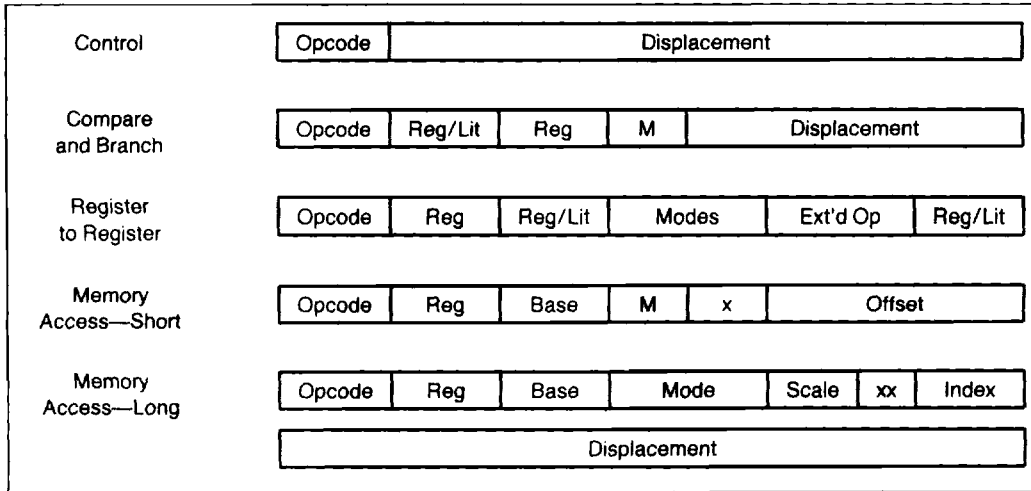

Figure 3. Instruction Formats
4. Simple Instruction Formats. All instructions in the 80960MC are 32-bits long and must be aligned on word boundaries. This alignment makes it possible to eliminate the instruction-alignment stage in the pipeline. To simplify the instruction decoder further, there are only five instruction formats and each instruction uses only one format. (See Figure 3.)